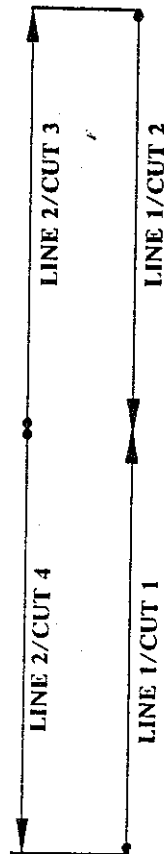

FIGURE 4-2 : KNIFE ASSEMBLY CALIBRATION TEST PATTERN 2 :
- then the knife starts from the middle and moves to the bottom horizontal line, which results in line 2/cut 4. (see Figure 4-2)
To calibrate the knife assembly that produced the Figure 4-3 test pattern, the ARROW/LEFT key would have to be pressed approximately 8 or 9 times to move the odd numbered cuts to the left. The ARROW/UP key would have to be pressed approximately 4 or 5 times to move the odd numbered cuts slightly higher. After pressing the ENTER key, the cutter will produce another test pattern which includes the corrections. If the new pattern is correct (see Figure 4-2) and the rectangle is easy to weed, press the ENTER key to save the new parameters and exit the calibration routine. If additional corrections are required, repeat the procedure using the manual movements keys.